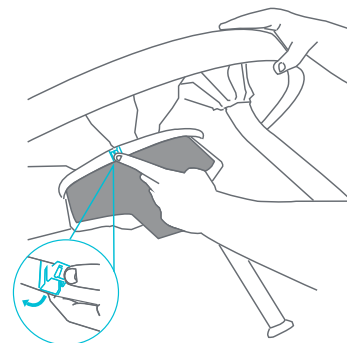

Fig. 2a
- 2 • To remove the seat, lift tabletop to expose one of three tabs underneath. Detach one of the tabs by pushing it off the tabletop (Fig. 2a).